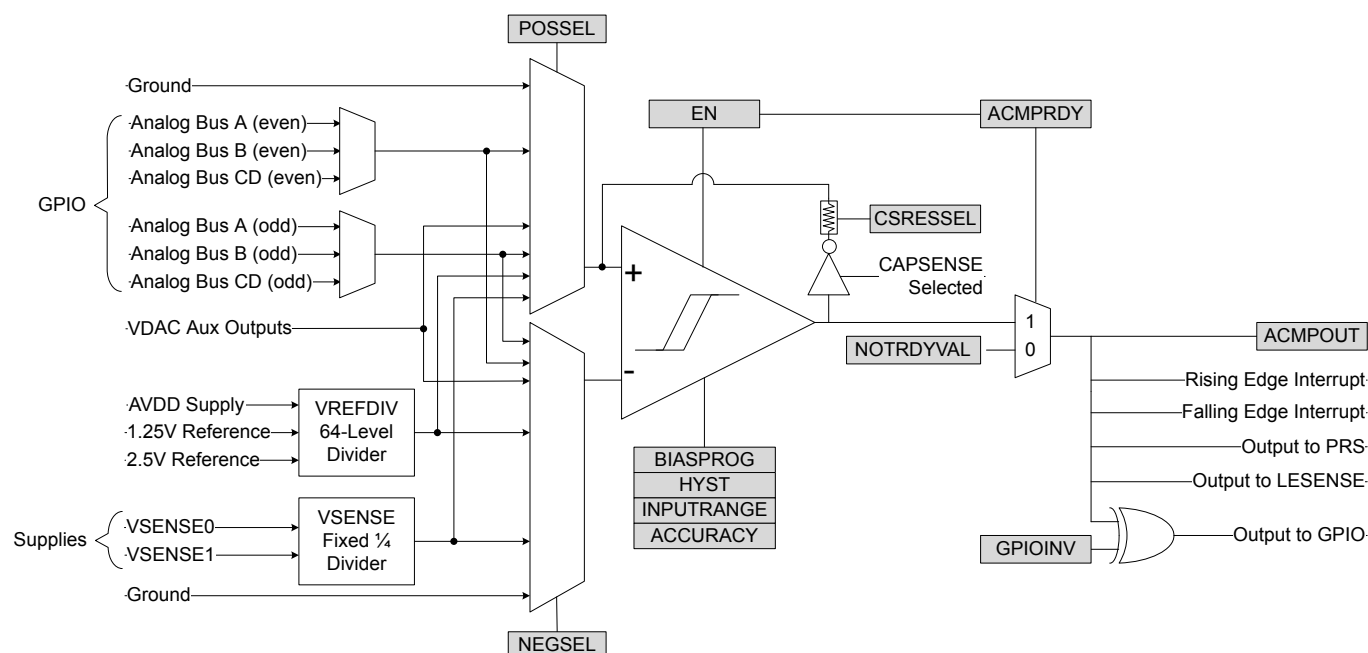

Figure 30.1. ACMP Overview
An overview of the ACMP is shown in Figure 30.1 ACMP Overview on page 1183.
The ACMP can be used to monitor supply voltages. This is done by selecting VSENSE01DIV4(LP) or VSENSE11DIV4(LP) for either POSSEL or NEGSEL. Note that the input to the comparator core will be divided by 4, as illustrated in Figure 30.1 ACMP Overview on page 1183. To reduce energy consumption, a sample/hold circuit can be used to periodically sample the power supplies. To enable this, select VSENSE01DIV4LP or VSENSE11DIV4LP in POSSEL / NEGSEL. Because the sample/hold feature uses the comparator in a non-continuous fashion, enabling this will increase response times and reduce the accuracy of the comparator. The connections between VSENSE0 and VSENSE1 to power supplies are summarized in the table below.